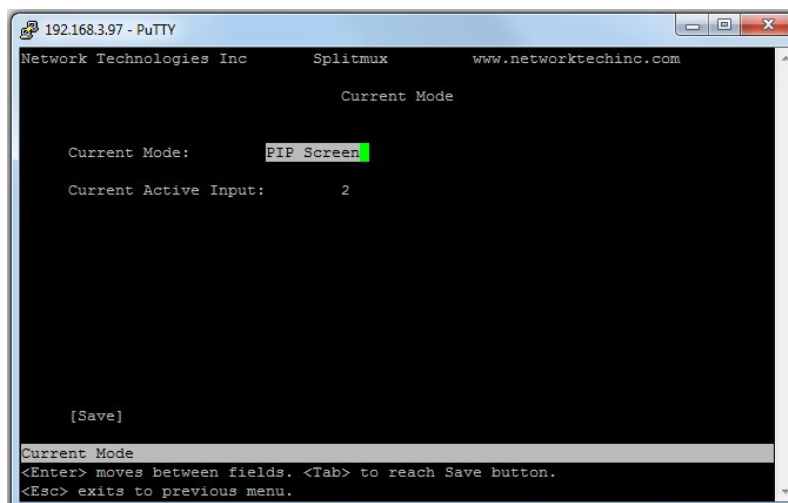

Figure 35- Text Menu-Current Mode Selection
- To move from menu list to action key (such as “Save” in Figure 35), press <Tab>.